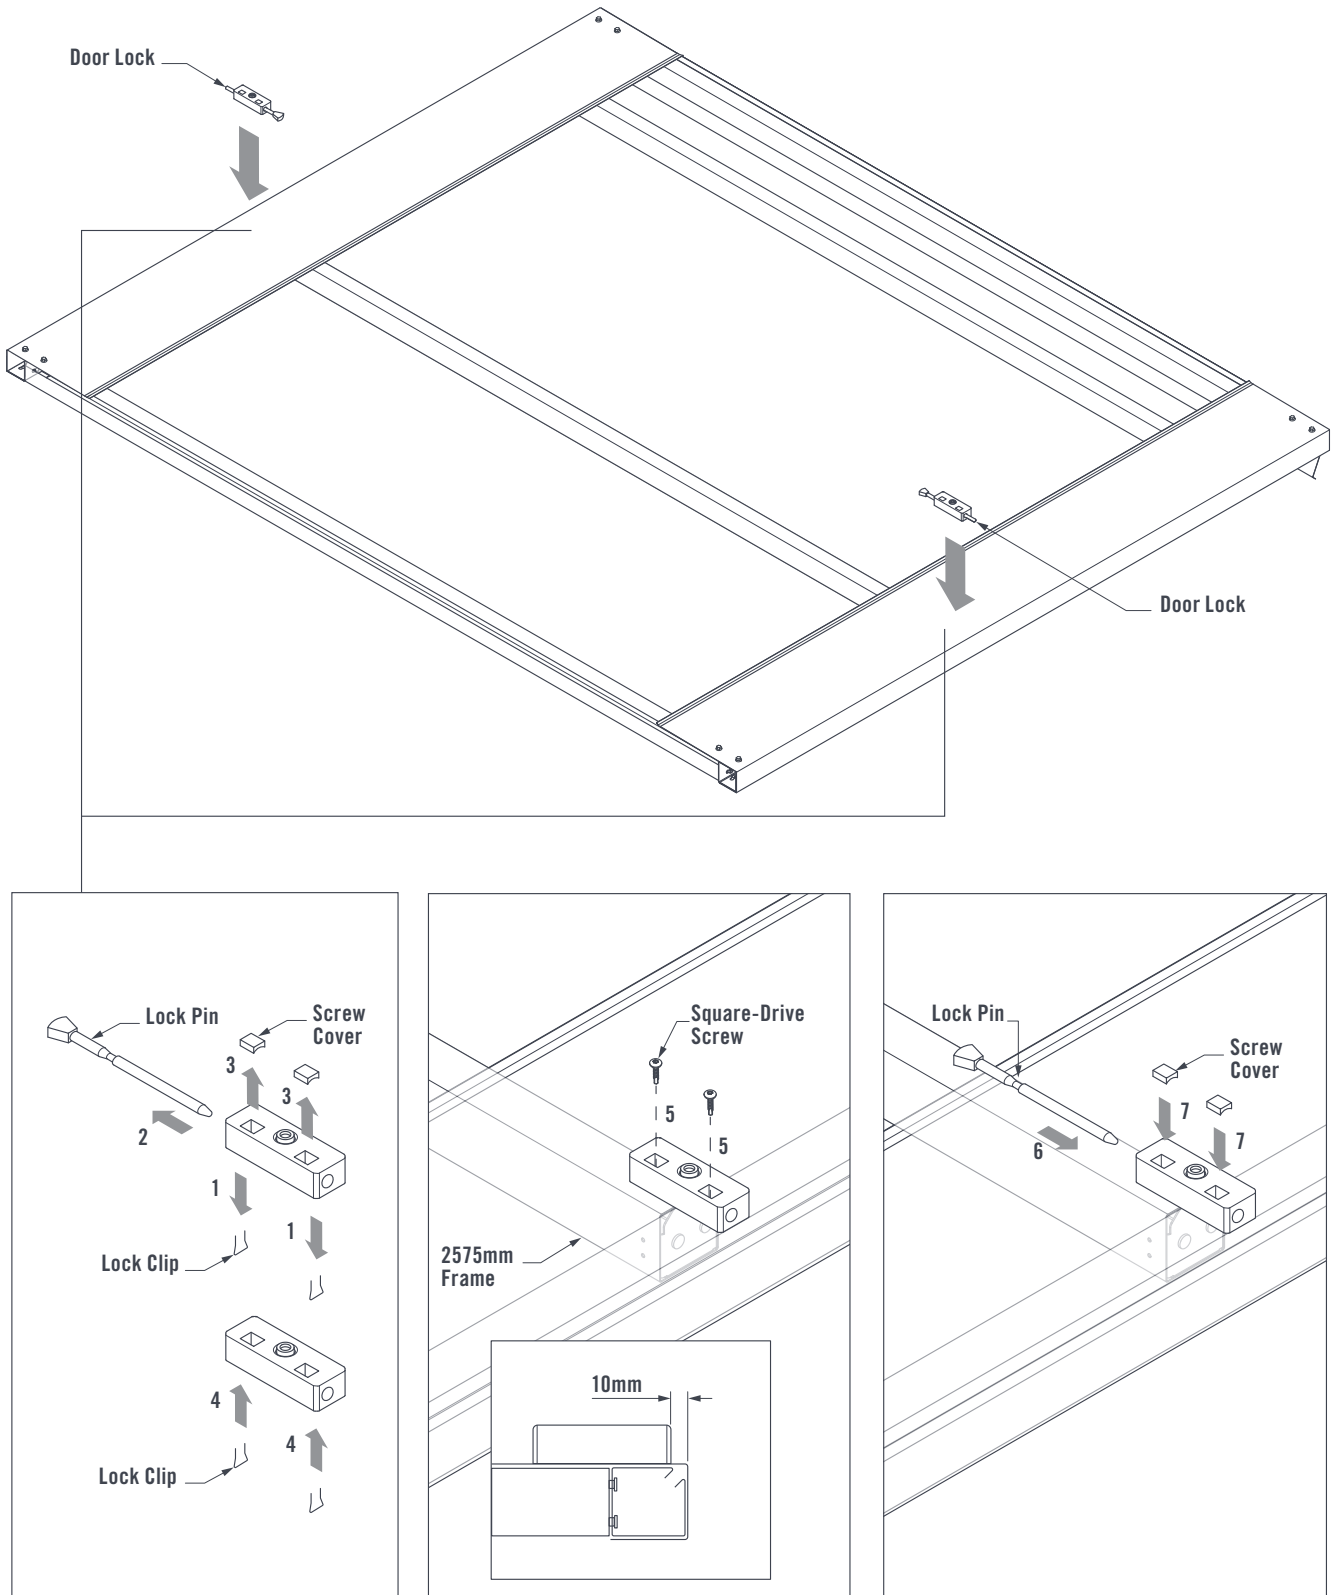

FIGURE 9.0
Remove the Lock Clips (1), Lock Pin (2) and Screw Covers (3). Reinstall the Lock Clips (4). Fit the two Door Locks onto the Door Assembly. Ensure the Door Locks are in-line with the 2575mm Frame and 10mm from the edge. Fasten the Door Locks to the Door Assembly using two Square-Drive Screws (5). Reinstall the Lock Pin (6) and Screw Cover (7) (Figure 9.0).